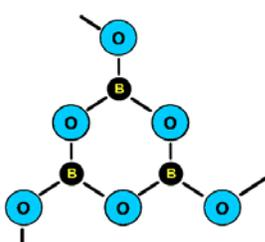

Figure 6
- Boroxol ring – the preferred structure that boron and oxygen will adhere to in a glassy structure. Composed of three boron atoms and six oxygen atoms in a hexagonal arrangement. (Figure 6)